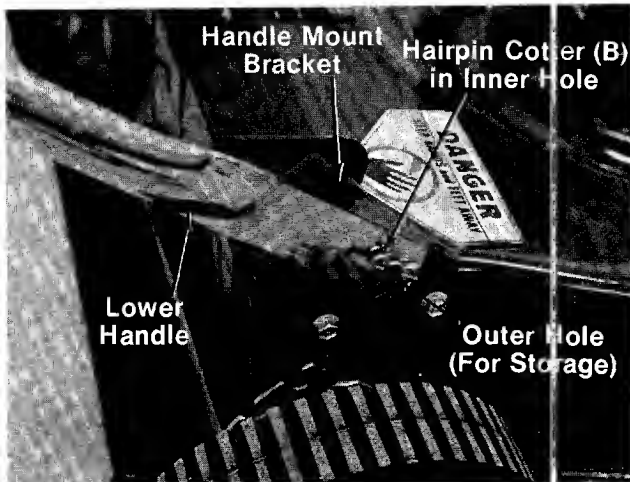

FIGURE 2.
- A (1) Rope Guide Bolt
- B (2) Hairpin Cotters
- C (2) Lock Washers 5/16" I.D.
- D (2) Hex Nuts 5/16-18 Thread
- E (1) Curved Head Carriage Bolt
- F (2) Cable Ties
3. Attach the lower handle by placing the bottom holes in the lower handle over the weld pins on the handle mount brackets. Make certain the instruction label on the lower handle can be read from the operating position. Secure with hairpin cotters (B) in inner holes on weld pins. See figure 2.